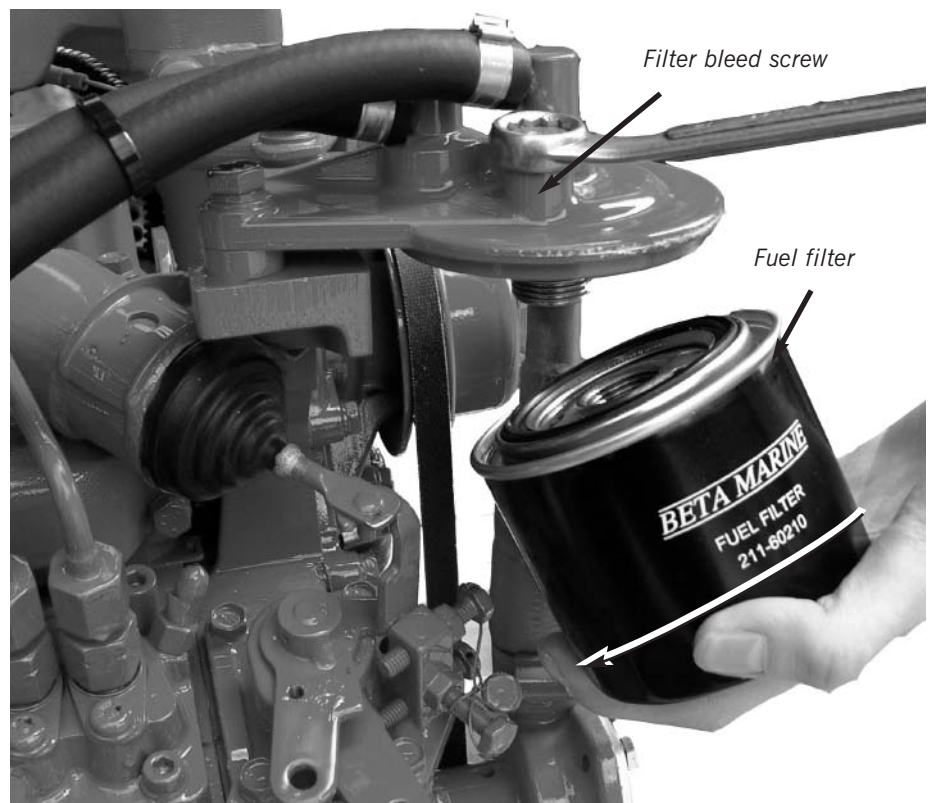

Fig. 2g
2. Replace the fuel filter cartridge every 750 hours. See fig. 2g.